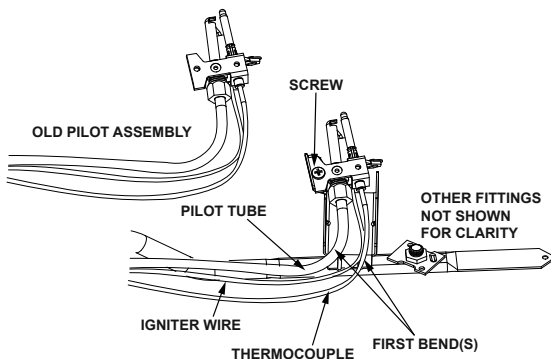

FIGURE 36.
- Remove and keep the screw securing the pilot assembly to the pilot bracket. (Figure 36)
- Using the old pilot/pilot tube assembly as a guide, bend the new pilot tube and new thermocouple to match the old ones. **NOTE:** Make only the bends closest to the pilot before going to the next step. (Figure 36)